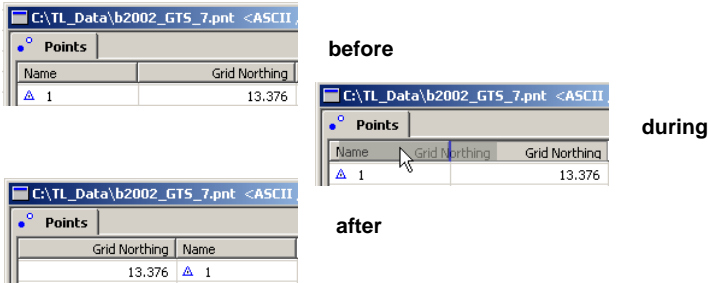

Figure 4-17. Swapping Data
- Swap the order of data columns using the drag-and-drop technique (Figure 4-17). Click and hold on the column title, then “drag” to the new location and release.